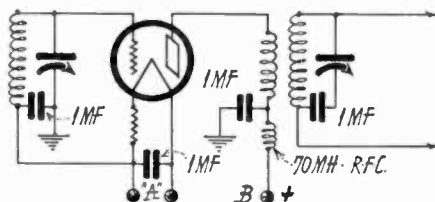

Fig. 5
12. In Fig. 5, is shown one stage of a "broadcast band" amplifier. Discuss the circuit with respect to the technical features, keeping in mind the problem of cost reduction.